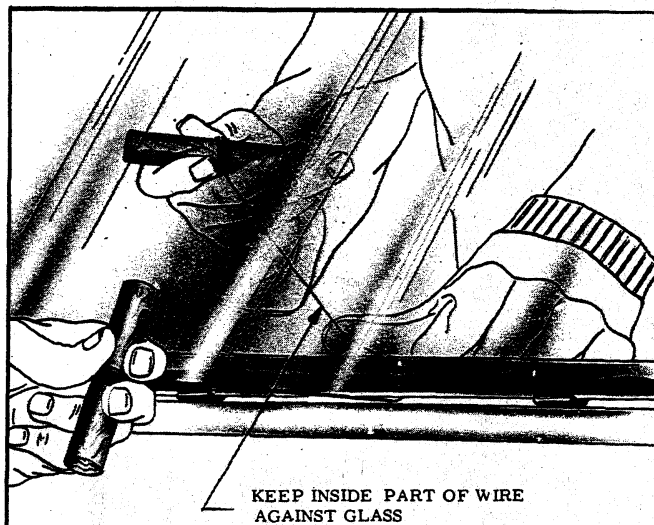

Fig. 56—Removing Old Glass From Window Opening
4. Secure one end of steel music wire to piece of wood for handle. Insert other end through caulking material at lower corner of rear window; then secure end of wire to another piece of wood (fig. 56).